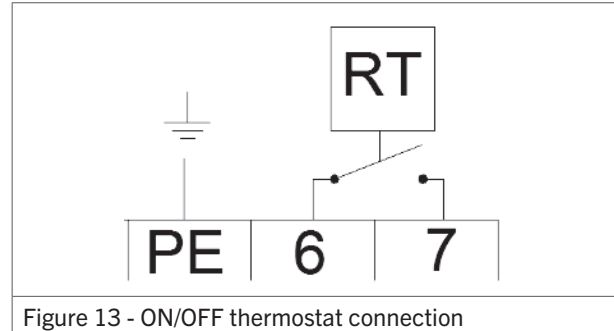

Figure 13 - ON/OFF thermostat connection
- Connect the two thermostat wires to terminal 6 and 7 (see figure 13 or the electrical wiring diagram in §11). This is a 24 V connection for the thermostat signal.